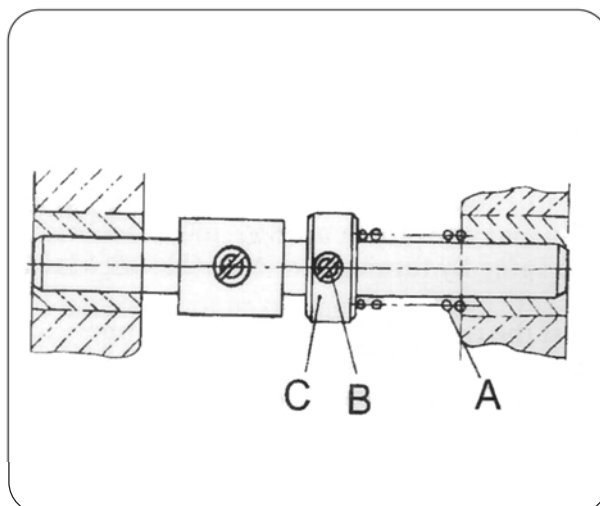
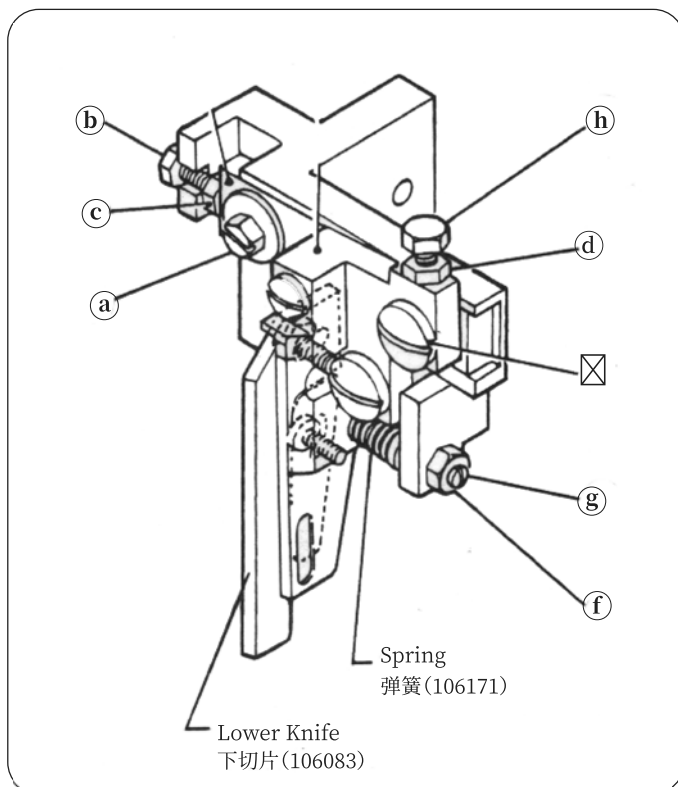
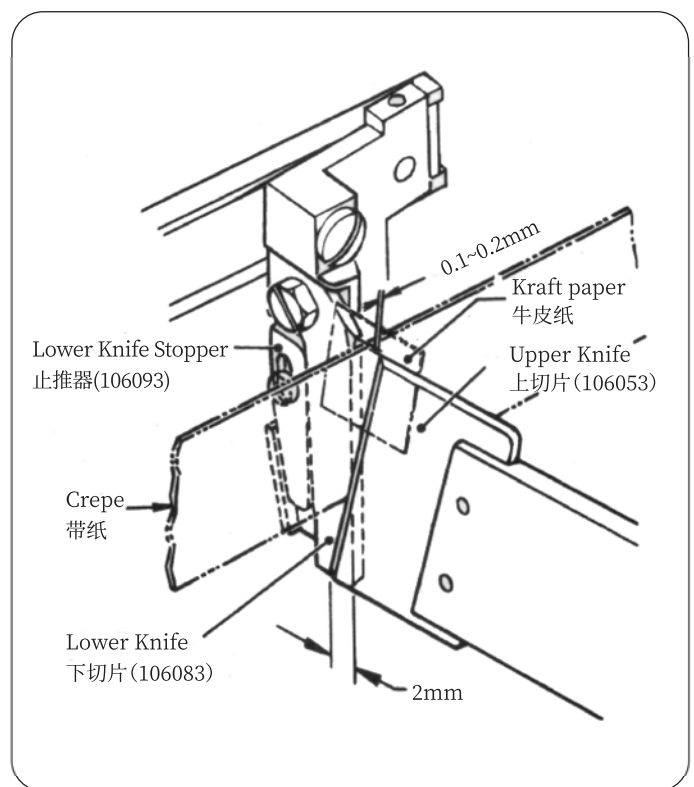

Fig.13
Fig.14
Fig.15
The lateral pressure between the knife and the cutting steel is activated by the spring A(Fig. 13). And it is determined by actual requirement in thread chain cutting. For adjustment, loosen the collar C of spring and screw B, increase or decrease the pressure as required, then retighten screw B.
切刀动片与切刀定片之间的侧向压力是由弹簧 A(图 13)产生的,其压力大小应根据切割线辫时的实际需要而定。调节时拧松弹簧挡圈 C 上的螺钉 B 进行减少或增大压力调节,调整后重新拧紧螺钉 B。
- Here, prior to lowering the upper blade, loosen screw ① and ②, and the nuts ③ and ④ shown in (Fig.13). When both blades are occluded, allow a gap of 0.1 to 0.2mm between the faces of the two blades on the rear side, and tighten the screw ① and the nut ④. The gap adjustment can be easily made placing a sheet of kraft paper between the upper and lower blades, as show in Fig.14.
- After the setting described in ① above, where the screw h is in light contract with the screw ⑤, tighten the nut ④.
(9) 气动式线辫切刀调节
- 用手移动上刀片(106053),当上下刀啮合时,其刀片后侧配合间隙为 0.1~0.2mm(在上刀和下刀之间应当可以顺畅的插入或抽出一张牛皮纸),如果需要下降上刀片,放松螺钉①和②,还要放松螺母③和④,如图 14 所示,调整好上下刀之间的间隙后,拧紧螺丝①和螺母④。
- 按照以上①调整后,将螺钉⑤拧到和螺钉轻轻接触时,拧紧螺母④。
- c. After the adjustment by steps ① and ②, cut a crepe tape or thread for test.
- * If the front end of the cutter cuts but the rear end does not, there is gap on the rear side. In this case, loosen the nut ④ and loosen the screw ⑤ by 1/8 turn, and cut the thread again for test. If it still does not cut, loosen the screw ⑤ by another 1/8 turn and repeat this adjustment and test cut until the thread can be cut, and then retighten the nut ④.
- * If the lower blade tends to turn away without cutting, loosen the nut ⑥ and increase the pressure of the spring by turning the screw ⑦ clockwise (Fig.14).
- d. Adjust the overlapped depth of the upper and lower blades by changing the length of air cylinder rod end so that the distance between the upper face of the lower blade and the rear side of the upper blade becomes 2mm, as shown in(Fig.15).
- c. 按照以上步骤①和②调整结束后,试切一下皱纹纸或者缝线。
- * 如果切刀前端能切,后端不能切,这是因为后端的间隙太大。这时需要松开螺母④,并将螺钉⑤旋出 1/8 圈,再试切一下皱纹纸或者缝线。如果仍然不能切,继续将螺钉⑤旋出 1/8 圈,再试切,如此反复知道能切断为止,然后拧紧螺母④。
- * 如果切刀后端能切,前端不能切,说明步骤 a 调整的不到位。再一次调整螺钉⑤,使上、下切刀的间隙为 0.1~0.2mm。
- * 如果试切皱纹纸或者缝线过程中,如果存在下刀让刀的情况,请放松螺母⑥,通过顺时针方向转动螺钉⑦增大弹簧压力,如图 14 所示。
- d. 当上、下切刀全部啮合时,其深度应该为 2mm,如图 15 所示。通过适当改变气缸杆端长度,将上、下刀的